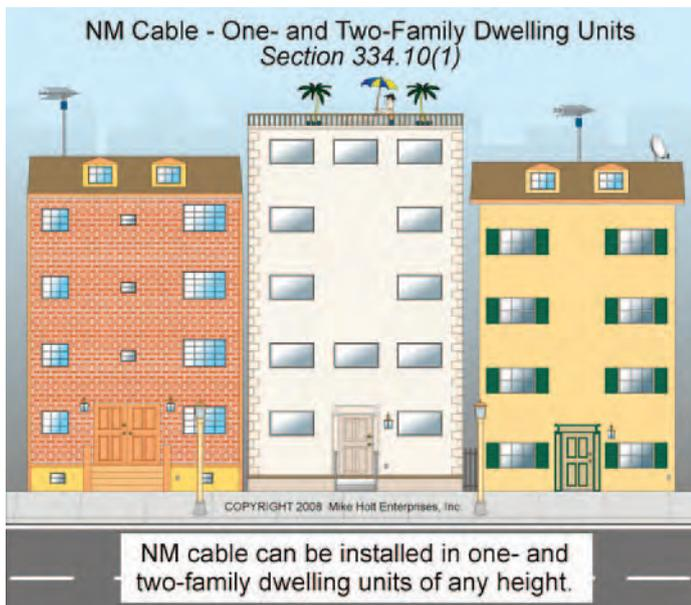

Figure 334-1
- (1) One- and two-family dwellings. **Figure 334-1**